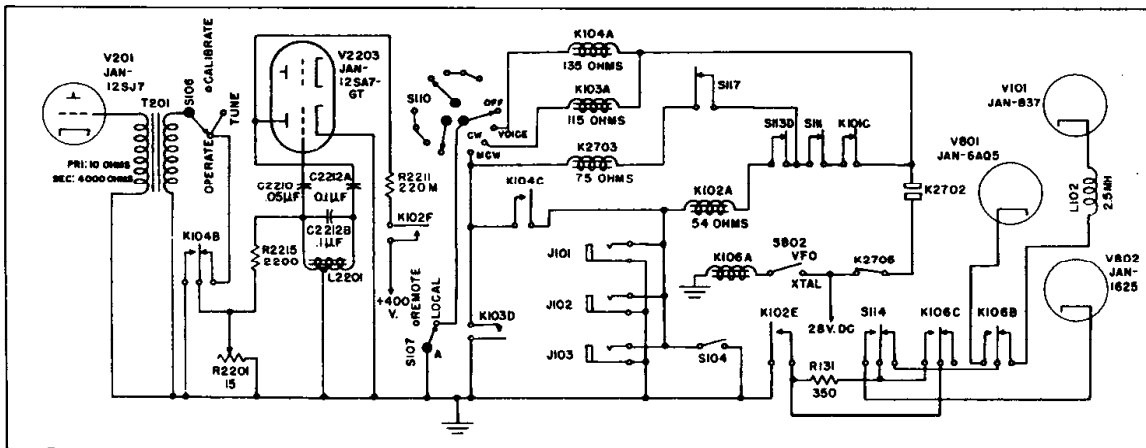

Figure 4-5A. Emission Selection and Carrier Control Circuits — AN/ART-13B
2.g.(6) of this section.
(4) **CRYSTAL-CONTROLLED—LOW FREQUENCY.**—The low frequency oscillator of the CDA-T unit employs a Type JAN-1625 beam pentode tube V802 in a modified Pierce oscillator circuit to cover the frequency range of 300 to 500 kc. Three crystal sockets, one of which accommodates a dual type crystal holder, permit four channel low frequency operation. Switching from one frequency to another is accomplished through the 4-position rotary switch (S802) which shunts out all crystals not in use. An iron core plate choke (L803) may be varied to obtain resonance and provide maximum oscillator output. Screen and plate voltage for V802 is obtained from a tap on the dynamotor low voltage bleeder. Oscillator operation is controlled by opening the cathode lead of V802 as indicated in figure 4-5A. This cathode returns to ground through switch S114 (which is mechanically operated by the "A" control); through relay K106 (controlled by the "VFO-XTAL" switch S802), and finally through the keying relay contacts K102E. For low frequency operation, control "A" must be in position 13, which couples the oscillator output through the Second Multiplier range switch S103, to the grid of the Power Amplifier tube, V104. Frequency output of this oscillator is always the frequency of the crystal in the circuit.
(3A) MODEL AN/ART-13B (Fig. 4-5A).—The r-f carrier is keyed by opening the cathode circuit of the oscillator and removing the screen voltage from the power amplifier. Selection of the channel and method of operation (VFO or XTAL) is accomplished by switching the cathode ground return lead to the desired oscillator. Switch S114, mechanically controlled by the "A" control dial, selects the frequency band. Positions 1 through 12 of control "A" permit operation in the high frequency band; position 13 the low frequency band. Choice of operation, XTAL or VFO, is controlled by switch S802 and relay K106. With switch S802 turned to "XTAL", relay K106 is energized. This relay shorts out R131, and depending on the setting of the "A" control, grounds the crystal oscillator cathode (V801 or V802) through S114 and keying relay con-
LOW FREQUENCY.—The low frequency oscillator of the CDA-T unit employs a Type JAN-1625 beam pentode tube V802 in a modified Pierce oscillator circuit to cover the frequency range of 300 to 500 kc. Three crystal sockets, one of which accommodates a dual type crystal holder, permit four channel low frequency operation. Switching from one frequency to another is accomplished through the 4-position rotary switch (S802) which shunts out all crystals not in use. An iron core plate choke (L803) may be varied to obtain resonance and provide maximum oscillator output. Screen and plate voltage for V802 is obtained from a tap on the dynamotor low voltage bleeder. Oscillator operation is controlled by opening the cathode lead of V802 as indicated in figure 4-5A. This cathode returns to ground through switch S114 (which is mechanically operated by the "A" control); through relay K106 (controlled by the "VFO-XTAL" switch S802), and finally through the keying relay contacts K102E. For low frequency operation, control "A" must be in position 13, which couples the oscillator output through the Second Multiplier range switch S103, to the grid of the Power Amplifier tube, V104. Frequency output of this oscillator is always the frequency of the crystal in the circuit.